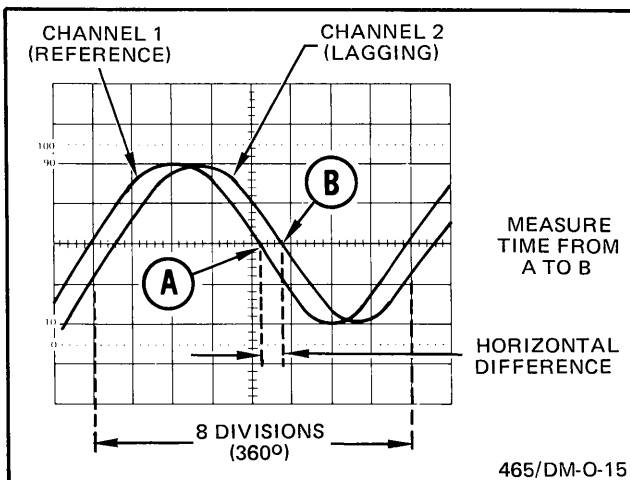

Fig. 2-11. Phase difference.
6. Turn the variable (X1-X10) SEC/DIV control until one cycle of the reference signal (Channel 1) occupies exactly eight divisions between the first and ninth graticule lines (see Fig. 2-11). Each division of the graticule represents 45° of the cycle ( $360^\circ \div 8 \text{ divisions} = 45^\circ/\text{division}$ ).
Assume a horizontal difference of 0.6 division with a sweep rate of 45°/division as shown in Fig. 2-11.